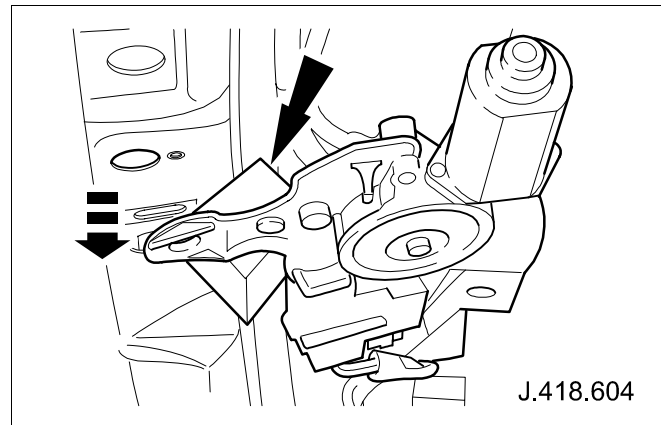

Fig. 5
- 7 Install suitable block of wood between front of sliding roof and body. (See Fig. 5)